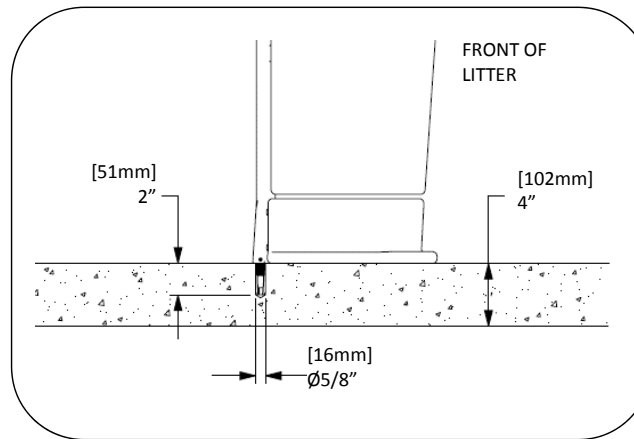

Fig. 2 – Anchor hole size
3. Drill holes according to Fig. 2. Clear holes of debris.